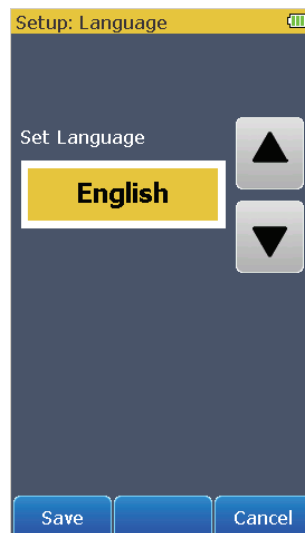

Figure 23. Language Screen
1. From the **Setup** screen, touch the **Language** control to show the screen in Figure 23 in the display.